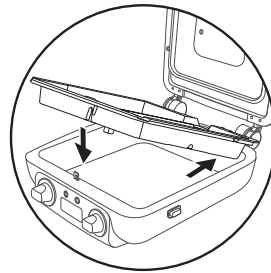

Fig. 3
3. To replace waffle plates a. Insert the waffle plate tabs into the unit and press down. You will hear the plates click into place. (Fig. 3,4)
Plug in the waffle maker (Fig. 3, 4, 5)